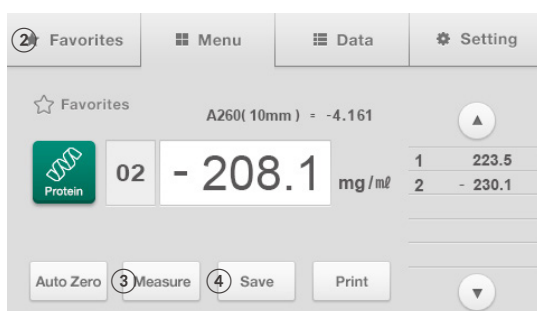

Fig. 4.3
3. [Figure 4.3] The measurement result will be displayed.
5. [Fig. 4.3] To continue measurement, repeat the operation. To finish measurement and save the data, press the [Save] button.
6. [Figure 4.3] To conduct new measurement, press the ② [Favorites] icon in the upper-side menu to open the main menu.